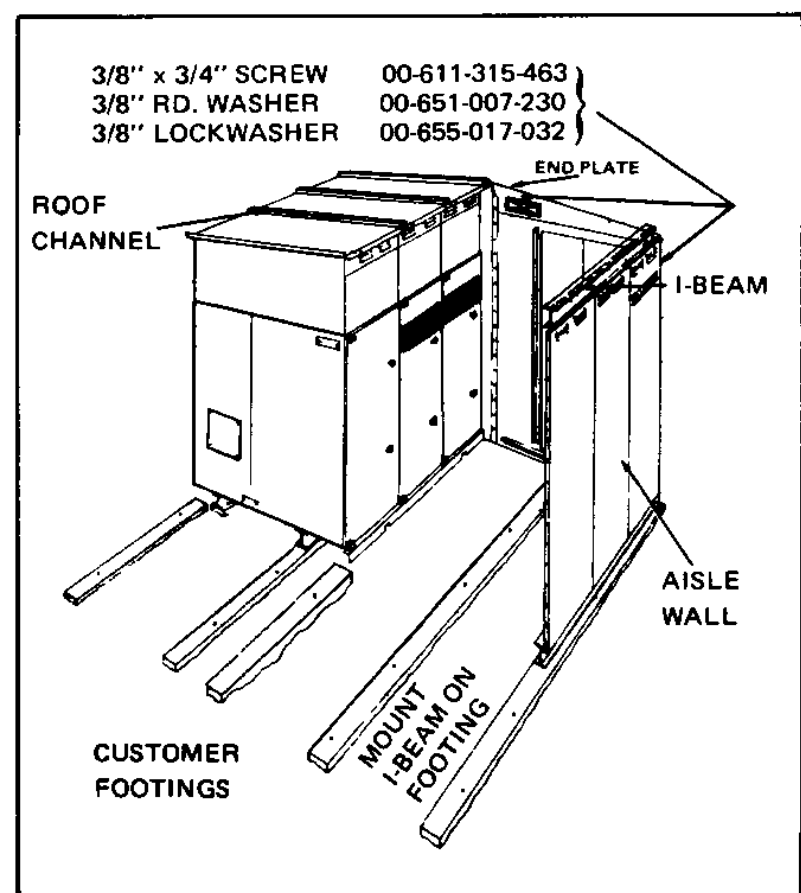

Figure 36. Initial Positioning - Single Aisle with Work Space
1. Mount aisle end plate at the end opposite the work space. (See Figure 36).